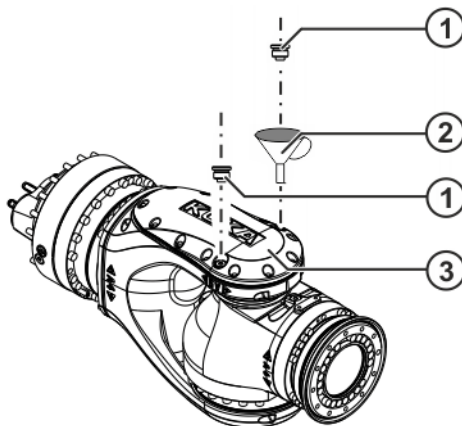

Fig. 9-29: Filling with oil on A5
1. Move A4 into the +90° position (>>> Fig. 9-29 ). The cover faces upwards.